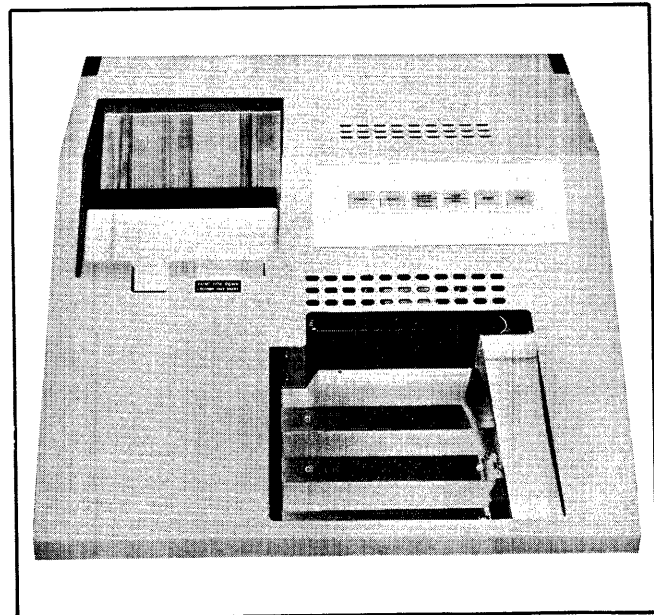

Figure 12. Model 7122 Input Hopper and Output Stacker
1. Remove the card weight (and any card present) from input hopper (see Figure 12). Cards may remain in the output stacker provided it is not full (indicated by illumination of the STACKER light). Press the RESET switch to initialize the reader and clear fault conditions. The transport motor may start depending upon the position of the POWER switch.